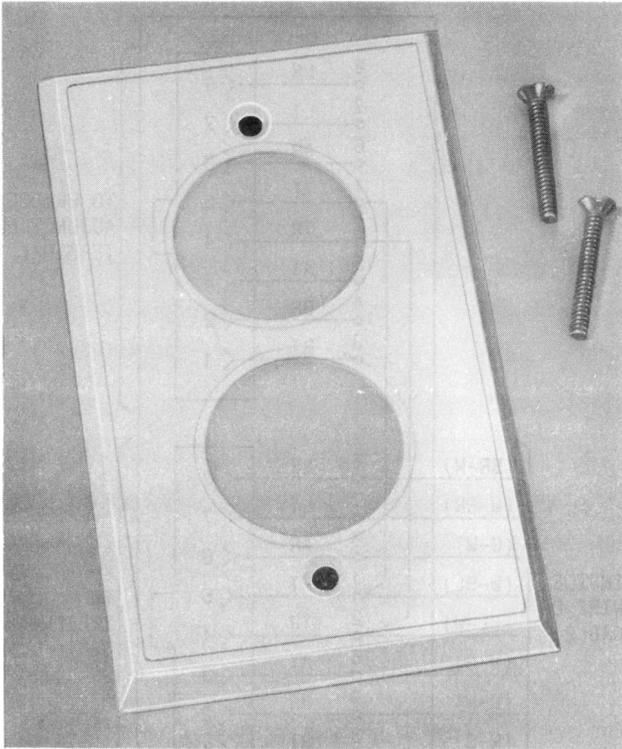
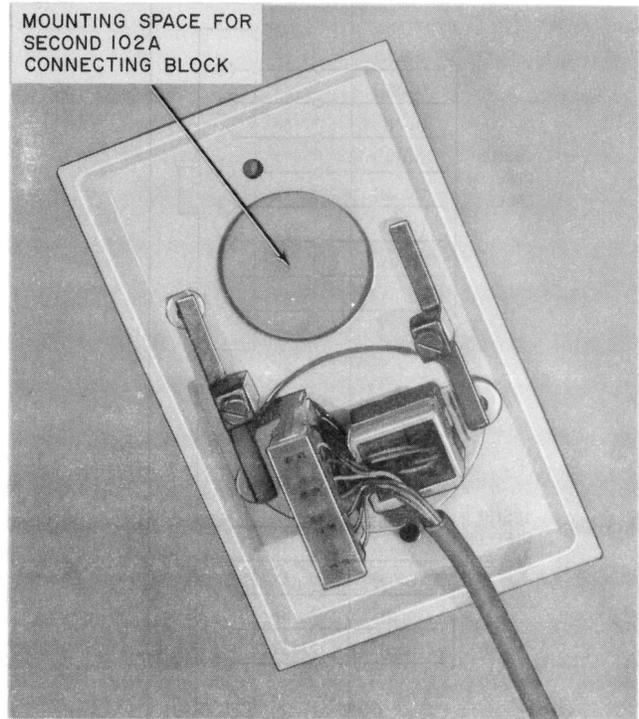

Fig. 13—400A Faceplate
Fig. 14—102A Connecting Block Mounted on 400A Faceplate
2.11 This faceplate (Fig. 13 and 14) is used to mount two 102A connecting blocks in a standard electrical wall outlet box. It is a decorative plate (ivory only) provided with brackets and screws for mounting. The two 102A connecting blocks are placed against the faceplate, under the brackets, and secured with the screws provided (Fig. 14). Interconnection is as described for the 104A connecting block.